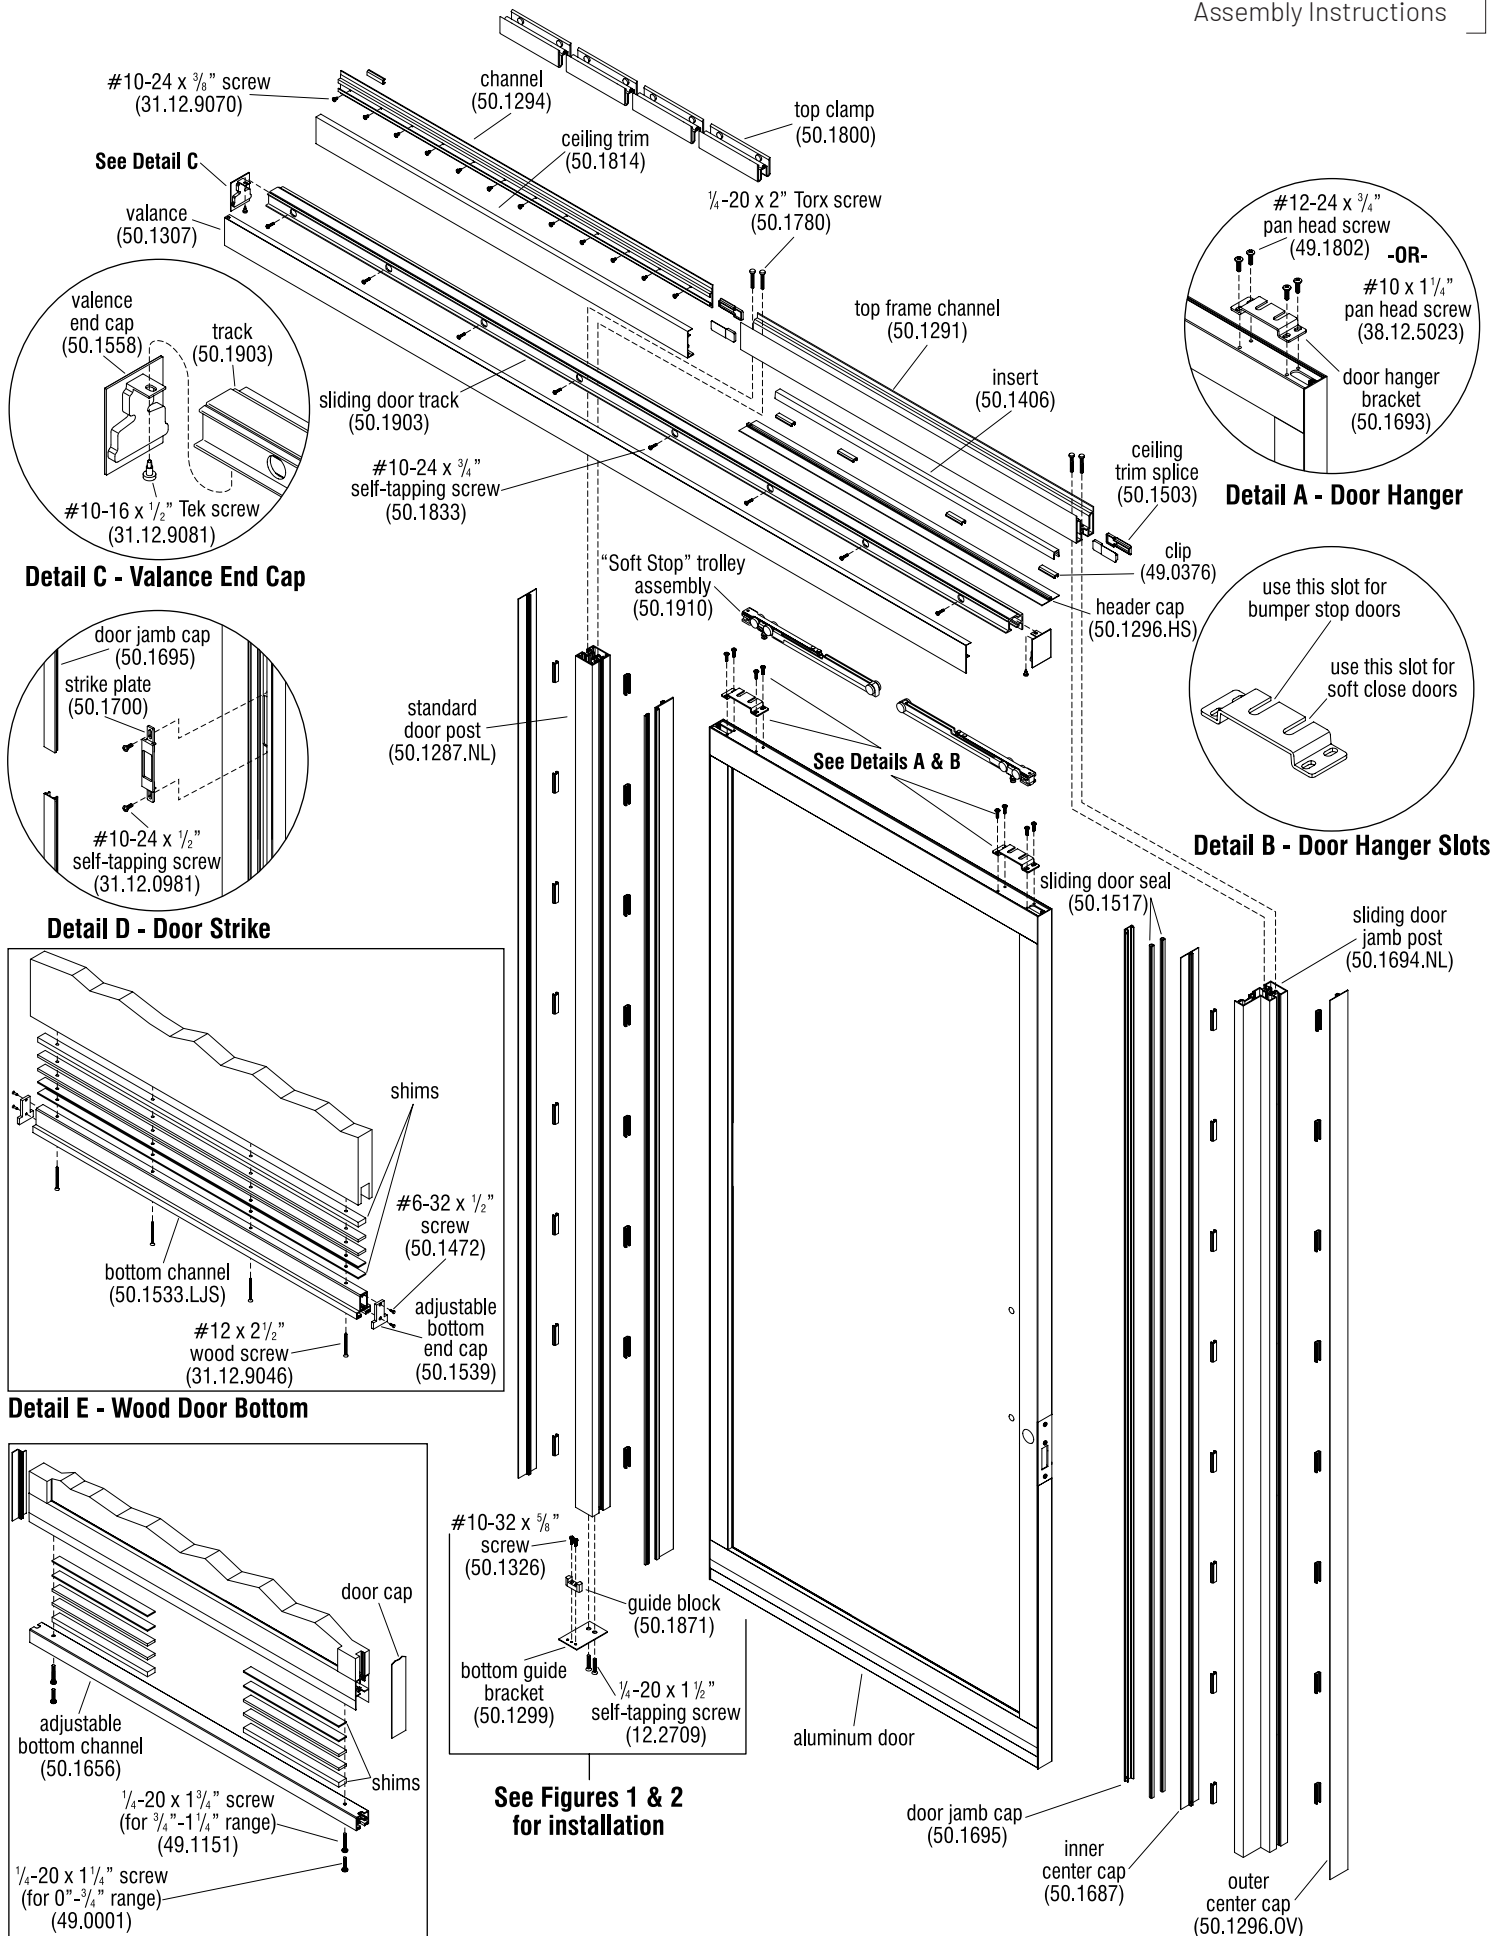

Figure 4 - LJS-A/LJS-W Full Height Aluminum/Wood Sliding Door (Phase 3)
11. Position the channel (50.1294) onto the additional panel clamps and push it up until it fully seats against the ceiling rail and against the sliding door frame. Secure the channel to the clamps using twelve #10-24 x $\frac{3}{8}$ " screws (31.12.9070). Assure the screws secure into the clamps and not into gaps between them (Figure 4).
12. Install the ceiling trim (50.1814) over the installed channel (50.1294), butting it against the top frame channel (50.1291) (Figure 4).
13. Locate the sliding door track (50.1903) and assure it is clean and free of debris. With the assistance of two people, position the track against the top frame channel and the ceiling trim about $\frac{1}{8}$ " from the bottom of the top frame channel to the bottom of the track (Figure 4). If needed, adjust the position of the track to match the level of the floor. Mark each screw hole.
15. Position the track over the pilot holes and secure using eight #10-24 x $\frac{3}{4}$ " self-tapping screws (Figure 4).
16. Insert the trolley assembly (soft stop trolley assembly, 50.1910 or bumper stop trolley assembly, 50.1334.2 - not shown) into the door track (Figure 4). See separate instructions included with the door stops and trolleys.
23. Adjust the height of the door leaf by adjusting the bolts and nuts on "Soft Stop" trolley assembly (50.1910) (Figure 4).
24. To install the adjustable bottom channel (50.1656) for aluminum doors, first measure the height required for the door allowing for a $\frac{1}{2}$ " undercut. The door height should be measured from the bottom of the hanger bolt on the trolley assembly (50.1910) to the floor minus the $\frac{1}{2}$ " undercut (Figure 4 & Detail F).
30. To hang the sliding door leaf, begin by attaching the hanger brackets (50.1693) to top of door with the screws provided. For aluminum doors, use #12-24 x $\frac{3}{4}$ " pan head screws (49.1802). For wood doors, use #10 x $1\frac{1}{4}$ " pan head screws (38.12.5023) (Figure 4, Detail A).
31. With the assistance of a second person, position the door leaf over the guide block and then slide the appropriate door hanger bracket slots into the hanger bolts on the trolley. Secure by tightening the retaining nuts on the hanger bolts (Figure 4 & Detail B).